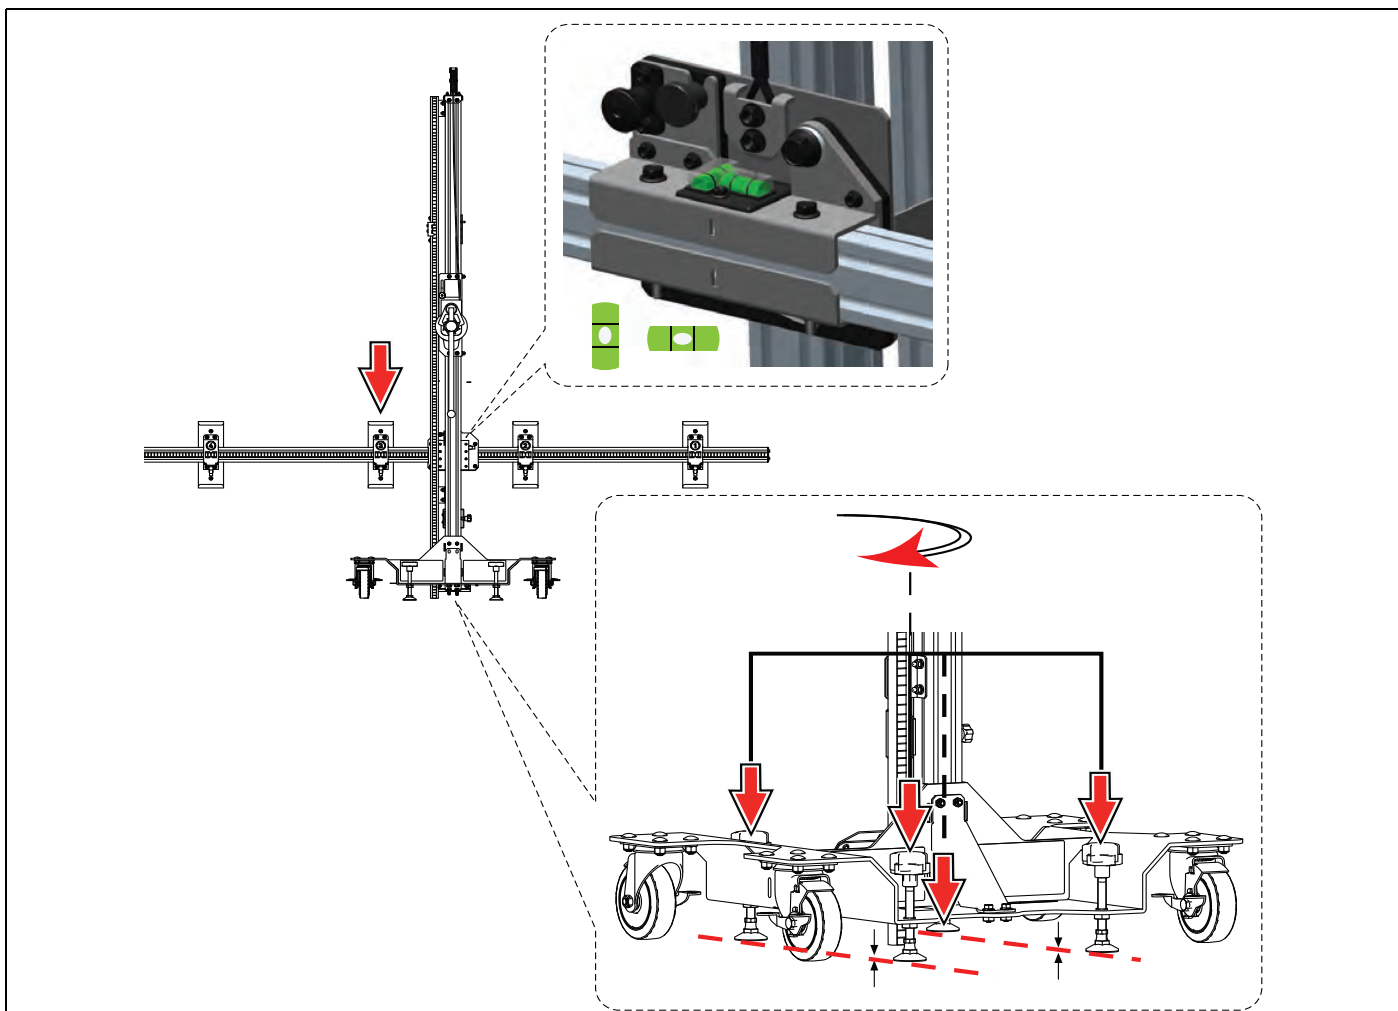

Figure 4-30
16. Without moving the TS100 target stand, lower the target cross beam (using the clutch brake height adjuster) to the lowest position (Figure 4-30).
17. Lower the leveling feet to raise the fixture off the casters, then adjust the leveling feet to level the cross beam (Figure 4-30). A spirit level is located on top of the cross beam. Figure 4-30 is shown without the targets installed for clarity and reference purposes only.